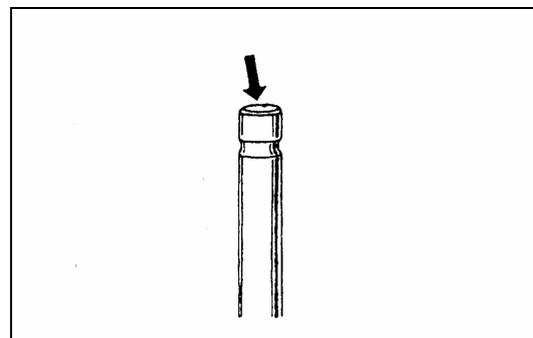

fig. 4-164
4) fig.4-164, check valve stem end surface for cavitations and wear . If wear and cavitations are found ,valve stem end may skived. But repair capacity can' t be out of bend angle area of valve stem end . If it reach degree of bend angle repaired, must replace a new one.